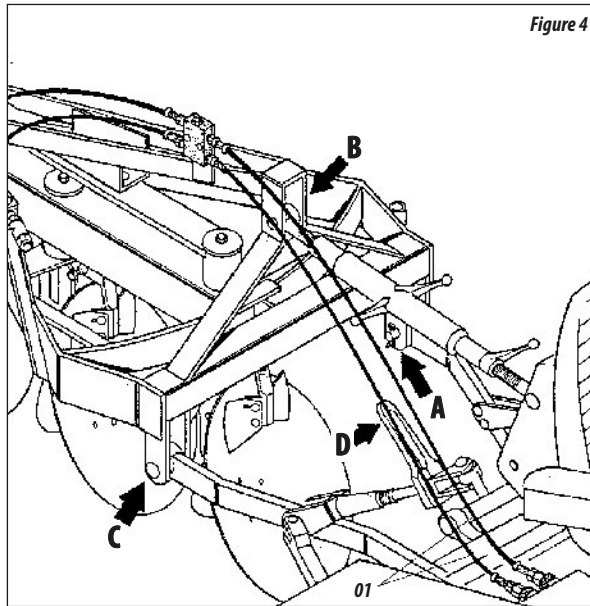

Figure 4
- 04 - Couple the tractor's lower left arm to hitch pin "A" of the plow, as shown in figure 4.